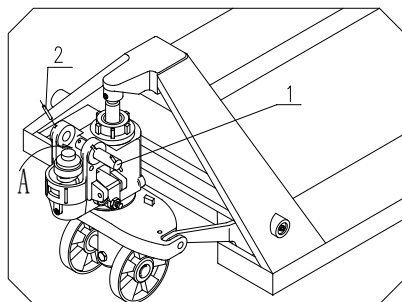

Fig. 1
- 3.1 See Fig 1: Remove Cotter Pin from Pin (1), leave Roll Pin in Pin (1) and remove Pin (1) from pump unit.